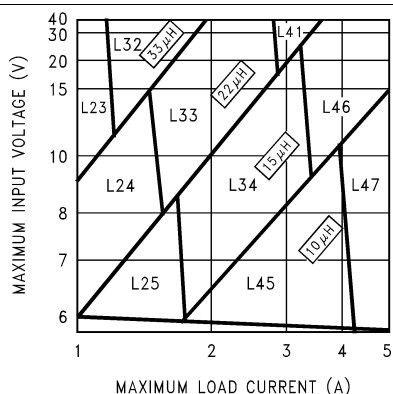
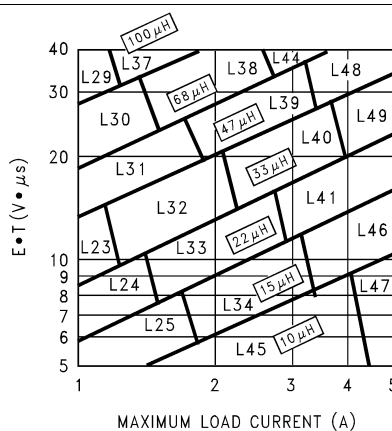

Figure 14. LM2679-3.3 V
Figure 17. LM2679-Adjustable Voltage
Step 3: Determine the inductor required by using one of the four nomographs, Figure 14 through Figure 17. Table 3 provides a specific manufacturer and part number for the inductor.
Step 5: Determine an input capacitor from Table 7 and Table 8 for fixed output voltage applications. Use Table 1 and Table 2 to find the specific capacitor type. For adjustable output circuits select a capacitor from Table 1 and Table 2 with a sufficient working voltage (WV) rating greater than V_{IN} max, and an RMS current rating greater than one-half the maximum load current (2 or more capacitors in parallel may be required).
Step 3: Use the nomograph for the 3.3-V device, Figure 14. The intersection of the 16 V horizontal line ($V_{IN \text{ max}}$) and the 4 A vertical line ($I_{load \text{ max}}$) indicates that L46, a 15- μH inductor, is required.